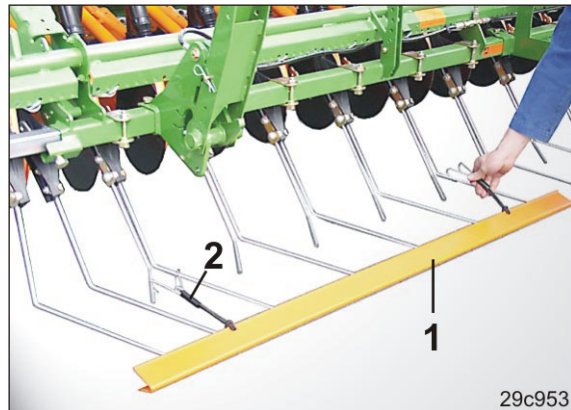

Fig. 204
1. Push the two-part road safety bar (Fig. 204/1) over the tine tips of the exact following harrow.
2. Fasten the road safety bar with spring holders (Fig. 204/2) to the exact following harrow.